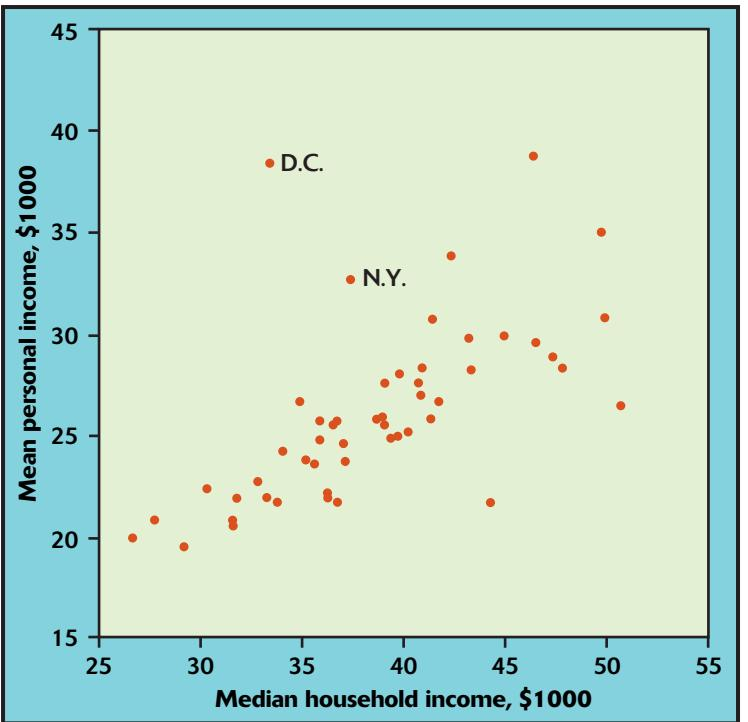

FIGURE 2.8 Scatterplot of mean income per person versus median income per household for the states, for Exercise 2.11.
- 2.11 **Rich states, poor states.** One measure of a state's prosperity is the median income of its households. Another measure is the mean personal income per person in the state. Figure 2.8 is a scatterplot of these two variables, both measured in thousands of dollars. Because both variables have the same units, the plot uses equally spaced scales on both axes. The data appear in Table 1.7 (page 29).